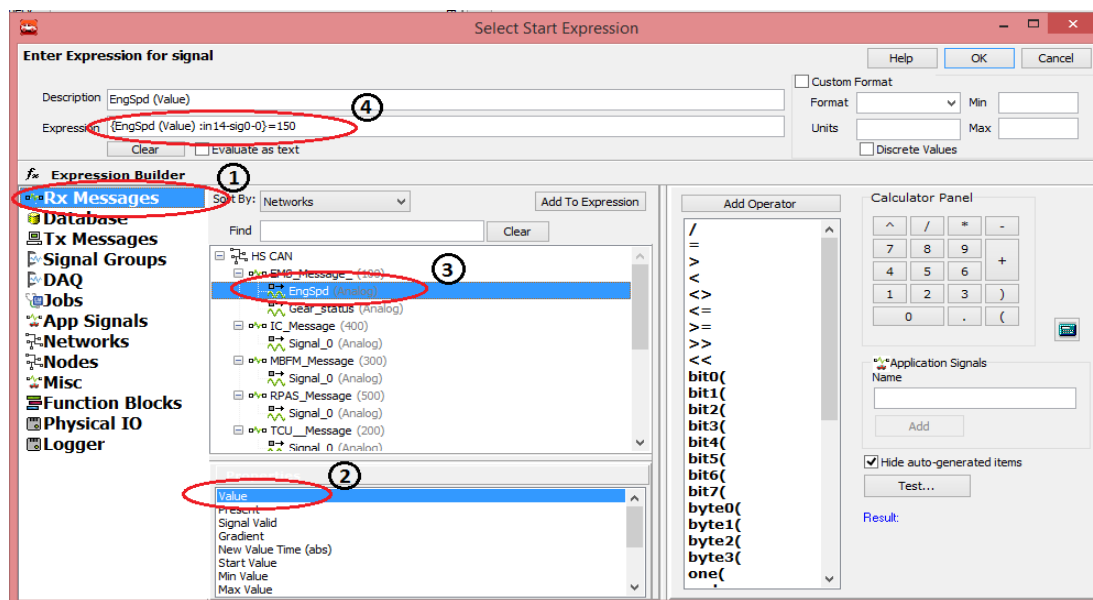

Figure 17: Selection of expression for start logging option
- Click on 'Rx Messages' (Figure 17 (1)) and select 'Value' property (Figure 17 (2)) from property list then double click on 'EngSpd' Signal (Figure 17(3)). It will come in Expression block on top of window then set expression as '{EngSpd (Value) :in14-sig0-0}=150' (Figure 167(4)).